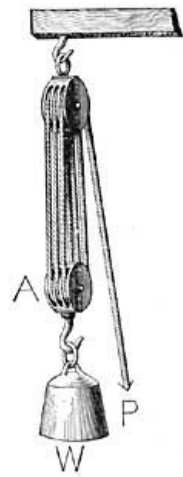

FIG. 111.—An effective arrangement of pulleys known as block and tackle.
**162. Combination of Pulleys.** A combination of pulleys called block and tackle is used where very heavy loads are to be moved. In Figure 111 the upper block of pulleys is fixed, the lower block is movable, and one continuous rope passes around the various pulleys. The load is supported by 6 strands, and each strand bears one sixth of the load. If the hand pulls with a force of 1 pound at *P*, it can raise a load of 6 pounds at *W*, but the hand will have to pull downward 6 feet at *P* in order to raise the load at *W* 1 foot. If 8 pulleys were used, a force equivalent to one eighth of the load would suffice to move *W*, but this force would have to be exerted over a distance 8 times as great as that through which *W* was raised.